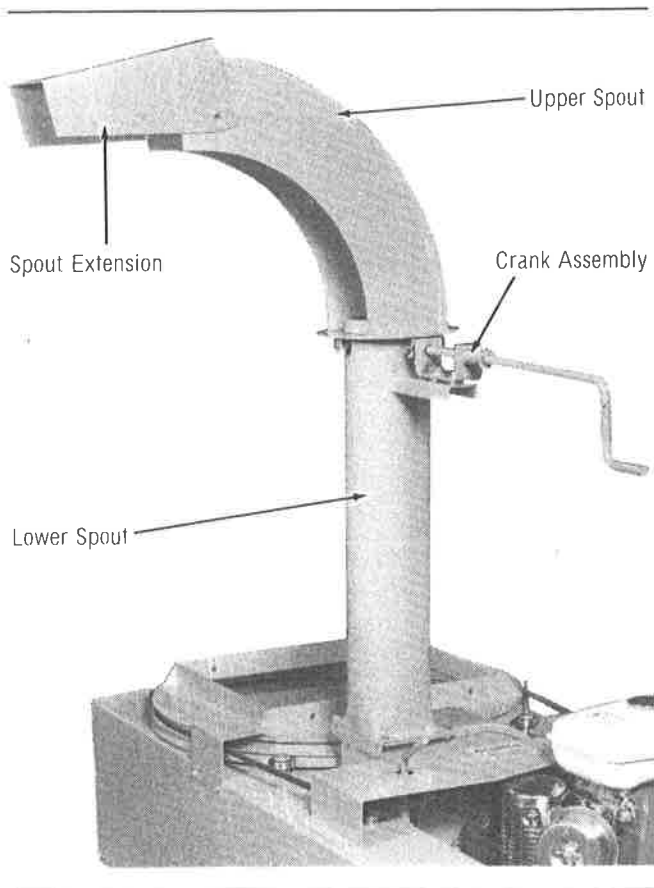

Figure 1 Spout Attachment
1. Attach the lower spout to the bale chopper. See Figure 1.
2. Mount the upper spout on the lower spout. Be sure to install the roller bearings as shown. See Figures 1 & 2.
4. Attach the spout extension to the upper spout. See Figure 1.